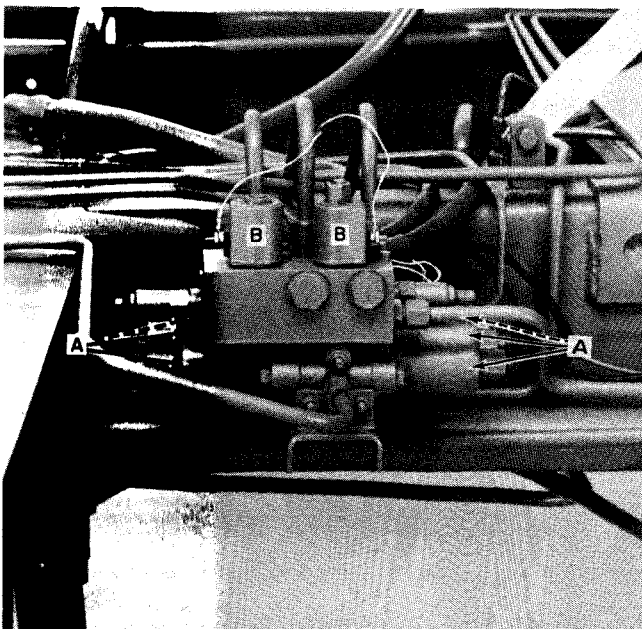

FIGURE 2-8
15. Replace the six solenoids (9V), A, Figure 2-8, with the new 12-volt solenoids provided (Fluid Power Systems).
16. Replace the first table dump and rolling rack dump solenoids (9V), B, Figure 2-8, with the new 12-volt solenoids provided.